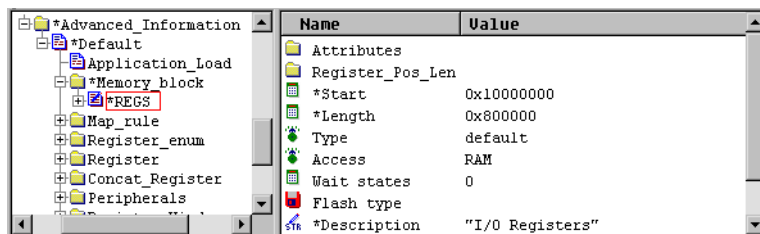

Figure 3-29 Configuring REGS
12. Set the value of Description to I/O Registers, (shown in Figure 3-29).